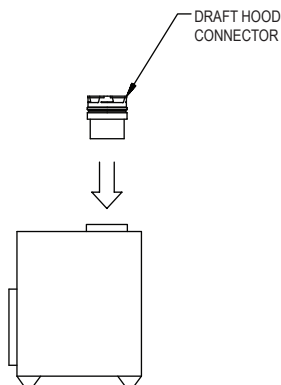

Figure 26
**(c). Connector.** Read the appliance manufacturer's instructions for connecting the Flex Pipe to the appliance. In most cases, a Draft Hood Connector will be required as shown in **Figure 26**. If you are not sure, contact